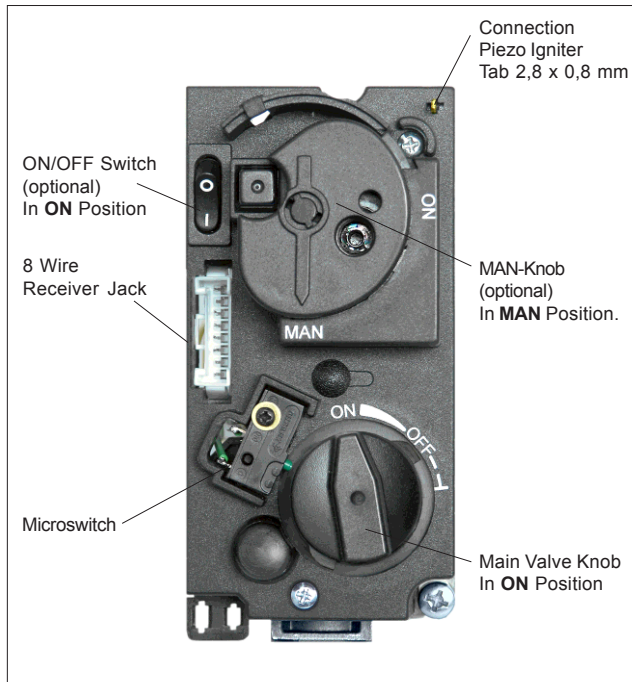

Figure 2: Combination Control, Cover
5. Wait five (5) minutes to clear out any gas. Then smell for gas, including near the floor. **If you smell gas STOP! Follow "A" in the safety information above.** If you don't smell gas, proceed to step 6.
7. With the MAN-knob in **MAN** position a manual pilot valve operator is accessible (see figure 2).
- Fully push down manual pilot valve operator and hold in, to start pilot gas flow. Immediately light the pilot with a match, while continuing to hold in the manual pilot valve operator for about one (1) minute after the pilot is lit. Release manual pilot valve operator. If pilot does not stay lit, repeat steps 2 through 8.